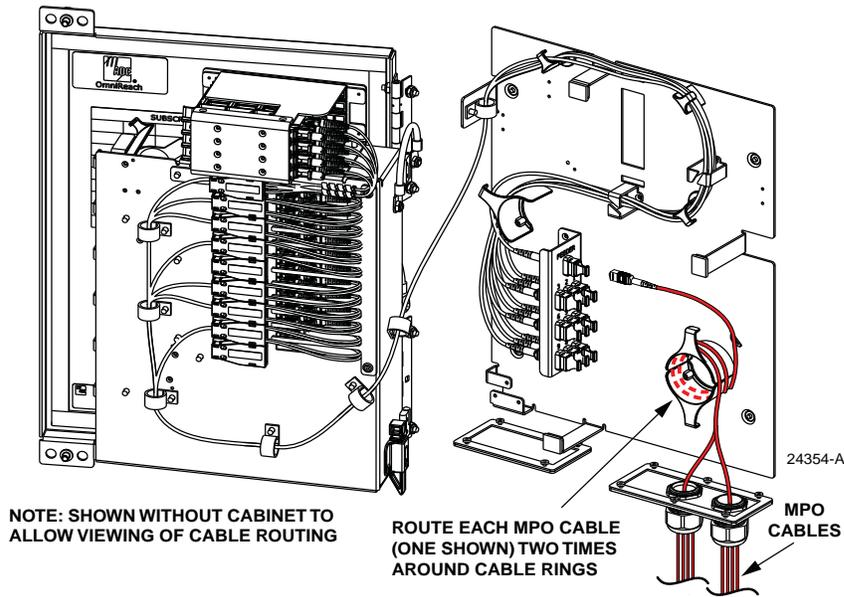

Figure 46. Routing MPO Cables to the Bulkhead Adapter Panel
10. Route the first MPO cable to the bulkhead adapter panel as shown in Figure 46. There should be sufficient slack to wind the cable two times around the radius limiters before routing the cable to the bulkhead adapter panel. If necessary, slack may be removed/added by pulling the cable in/out of the cabinet through the grommet.